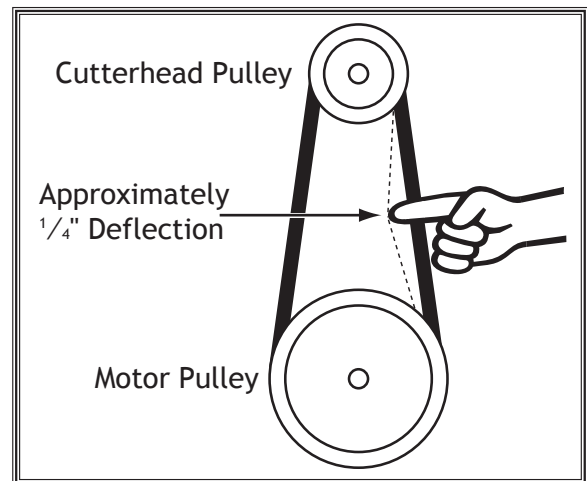

Figure 65. Checking belt deflection.
5. Press belt with moderate pressure in center to check belt tension. Belt is correctly tensioned when there is approximately 1/4" deflection when pushed, as shown in **Figure 65**.